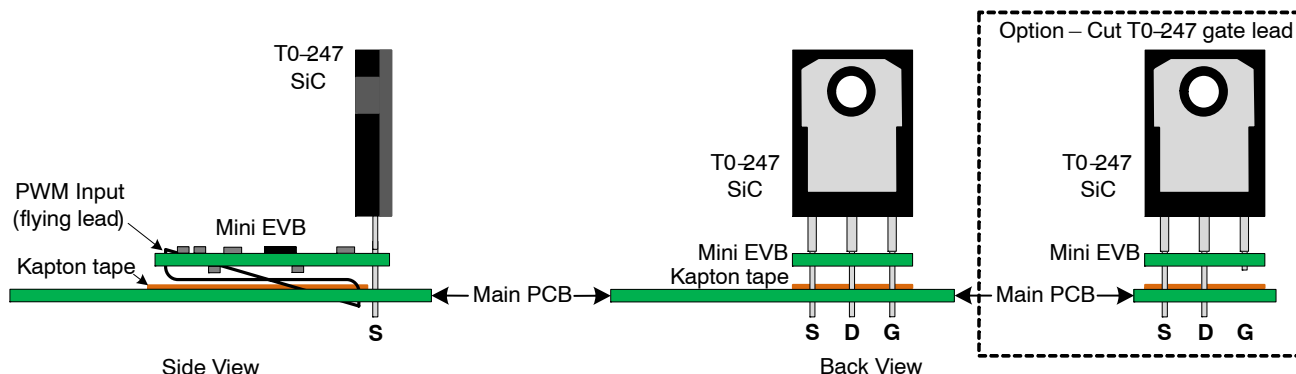
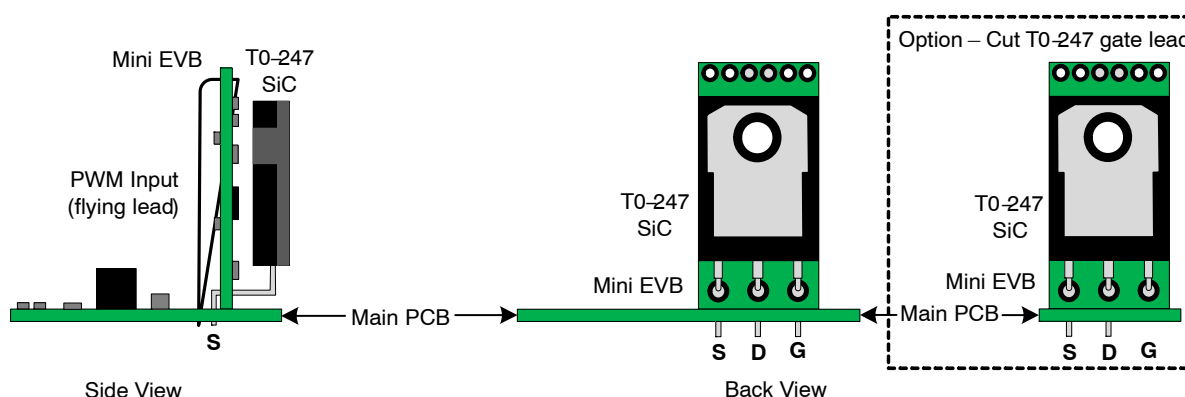

Figure 10. Mini EVB Installation – Option 1
Figure 11. Mini EVB Installation – Option 2
The NCP51705, SiC Driver Mini EVB can be mounted into an existing power board, shown as “Main PCB” in Figure 10. If there are no components or low profile surface mount components only, the mini EVB can be mounted parallel to the main PCB as shown in Figure 10. The T0–247, SiC MOSFET leads would pass through the mini EVB
plated thru-holes and into the main PCB. Or, if necessary, the gate lead of the T0–247, SiC MOSFET can be soldered to the plated thru-hole on the mini EVB and cut so that it does not contact the main PCB, as shown in the dotted box in Figure 10. For mechanical strength, it is preferred that the T0–247 gate lead pass through both PCB’s.
If components mounted on the main PCB interfere with mounting the mini EVB as described by Option 1 (Figure 10), the T0–247 leads can be formed (lead length may need to be added) with the mini EVB mounted perpendicular to the main PCB as shown in Figure 11, option 2. If required, both mounting options allow the application of a heat sink to the T0–247 package. If high dV/dt is present on the drain of the T0–247, the EVB should be angled, away from being parallel to the T0–247, as much as possible.
7. Make appropriate modifications to lead form the T0-247 leads as shown in Figure 11. If the T0-247 leads are not long enough to provide sufficient clearance between the mini EVB and T0-247 case and allow the leads to pass through the mini EVB and down through the main PCB, then extending the lead length may be necessary.